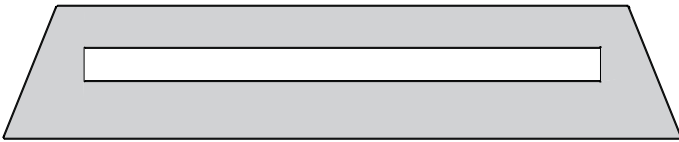

Figure 44
- Apply the accessory decorative media to the shaded area only. **See Figure 44.** Use enough to cover the floor of the fireplace, but do not allow the media to reach higher than the flange surrounding the burner. Never place decorative media inside the flange surrounding the burner itself.